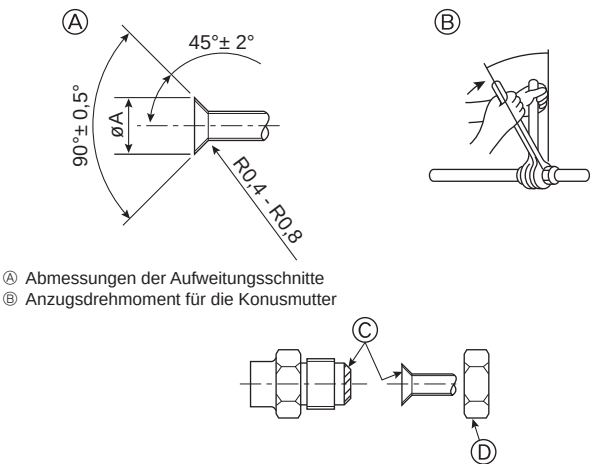

Fig. 4-8
(A) (Fig. 4-8)
(B) (Fig. 4-8)
4.2. Rohranschlüsse (Fig. 4-8)